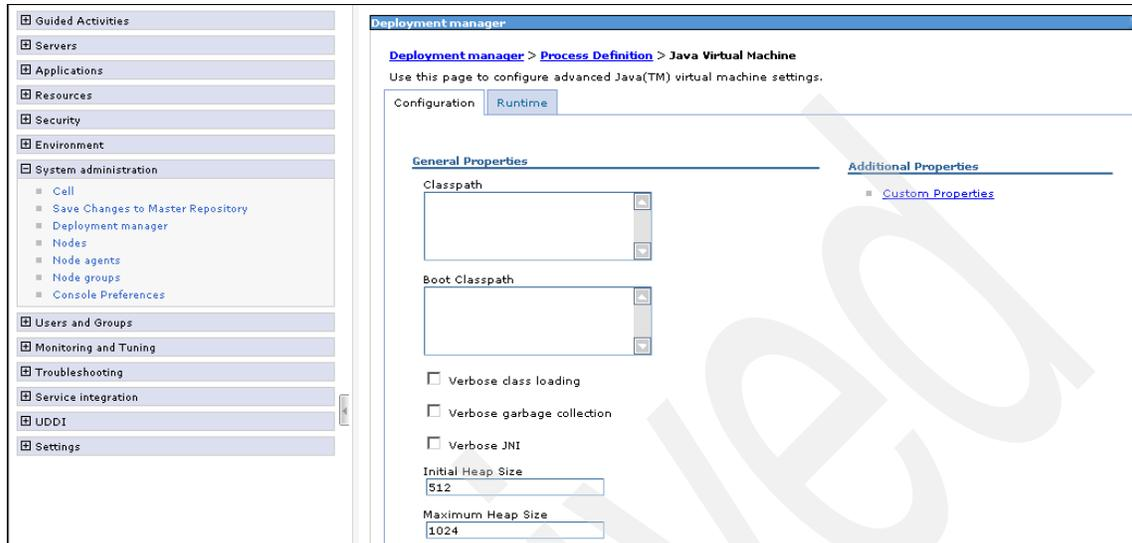

Figure A-9 Heap Size
- Scroll down and type 512 for **Initial Heap Size** and 1024 for **Maximum Heap Size** and click **OK** (see Figure A-9).